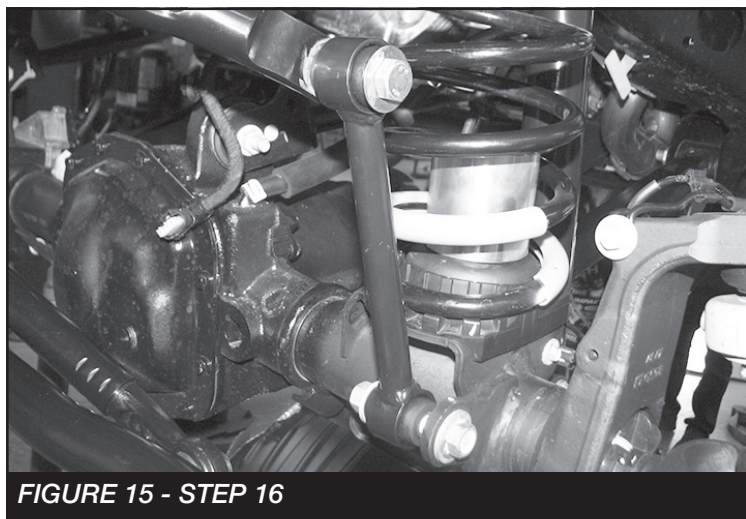

FIGURE 15 - STEP 16
16. Install FT50048 (Bushings) and FT404739 (Sleeves) into FT50026BK (Sway bar links). Then, install the links to the axle mount and sway bar using the supplied M12 x 70mm or M14 hardware (2024 Models) for the upper location and the factory for the lower. Torque to 65 ft-lbs. **SEE FIGURE 15**